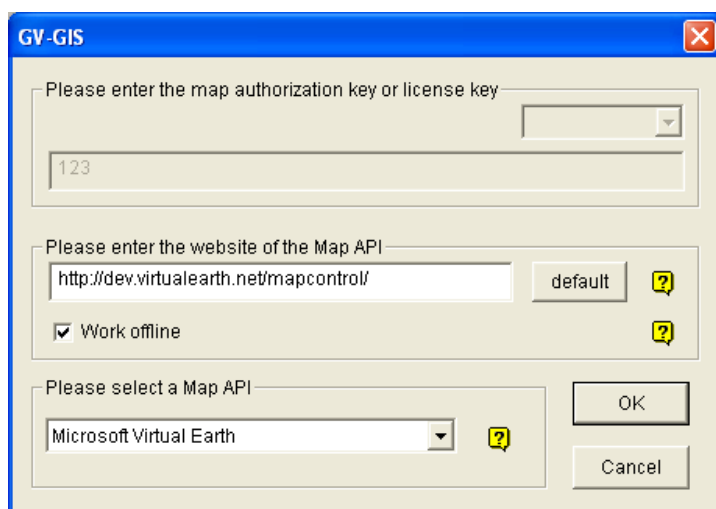

Figure 3-1
1. If you like to use the maps created yourself, overwrite the files at `:\GV` folder\GIShtm-User, and select **User Defined** from the “Please Select a Map API” drop-down list (Figure 3-1).